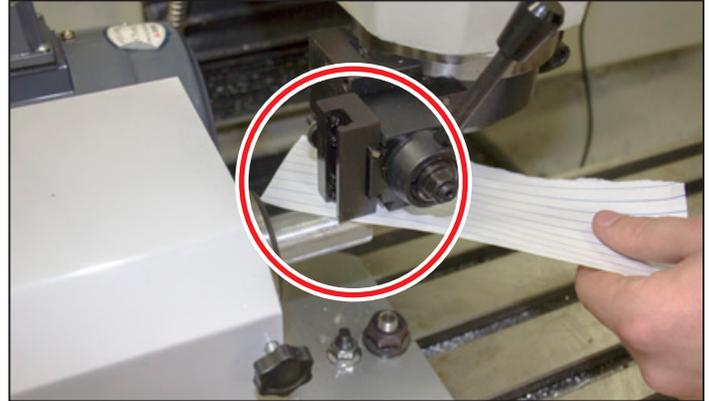

Figure 4.12
2. Place a piece of paper between tool holder and top of workpiece to act as a gauge; step machine toward headstock in -Z and feel for paper to bind up (see **Figure 4.12**).